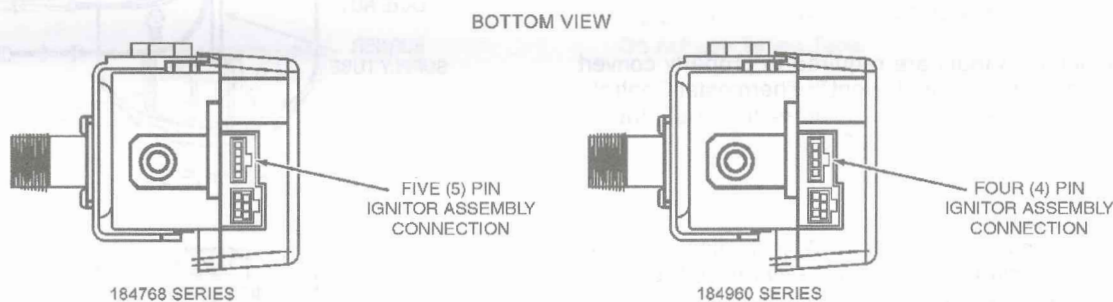

FIGURE 1.
Note: The Intelli-vent™ Thermostat Control, (184768 Series) has a five (5) pin connection to the Hot Surface Ignitor Assembly and the Intelli-vent™ Thermostat Control, (184960 Series) has a four (4) pin connection to the Hot Surface Ignitor Assembly, see Figure 1.